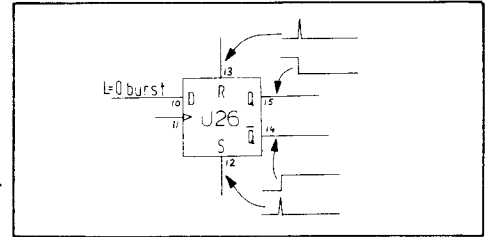

Figure 8-8-1. Burst Flip-Flop
- ① — Load pulse from acceptor to load latches [via BURST (PARAMETER), NUMBER (DATA), and BURST (ENTRY)]
- ② — Load pulse from acceptor to load counter [via BURST (INPUT MODE) or BURST (PARAMETER), NUMBER (DATA), and BURST (ENTRY)]
- ③ — Burst enable/disable (from rate acceptor)
- ④ — Accepted data are correct (as given in Table 8–8–1 for the respective burst number).
2. Press BURST input mode (reset pulse) and MAN (set pulse) alternately, checking that the flip-flop functions correctly as shown in Figure 8-8-1.